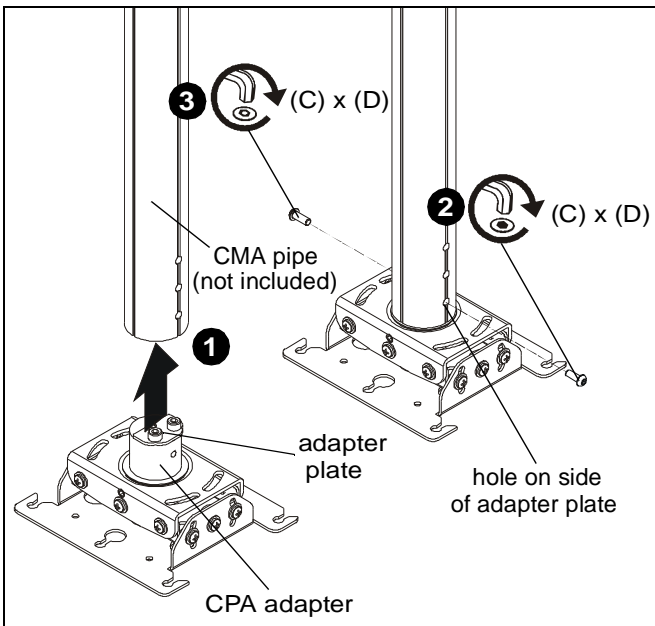

Figure 1
1. Making sure holes are aligned on RPE's CPA adapter and CPA column (not included), lift RPE into bottom opening of CPA column. (See Figure 1)
2. Install either one M6x16 button head screw (C) or security screw (D) into hole on side of CPA pipe where the adapter plate on CPA adapter is located. (See Figure 1)
3. On the opposite side of CPA pipe, use the other M6x16 button head screw (C) or security screw (D) to secure RSE (A) to CPA column. (See Figure 1)